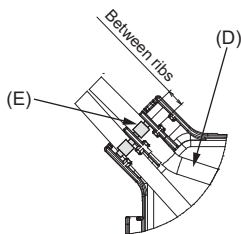

Fig. 7-10
**When installing the covers, make sure that the wires do not get pinched. Fit the band securing the junction wires between the ribs on the connector box as shown in the diagram. (Fig. 7-10)**
- (A) Wire cover
- (B) Connector box cover
- (C) Connector box
- (D) i-see Sensor or signal receiver lead wire (Grille accessory)
- (E) Band